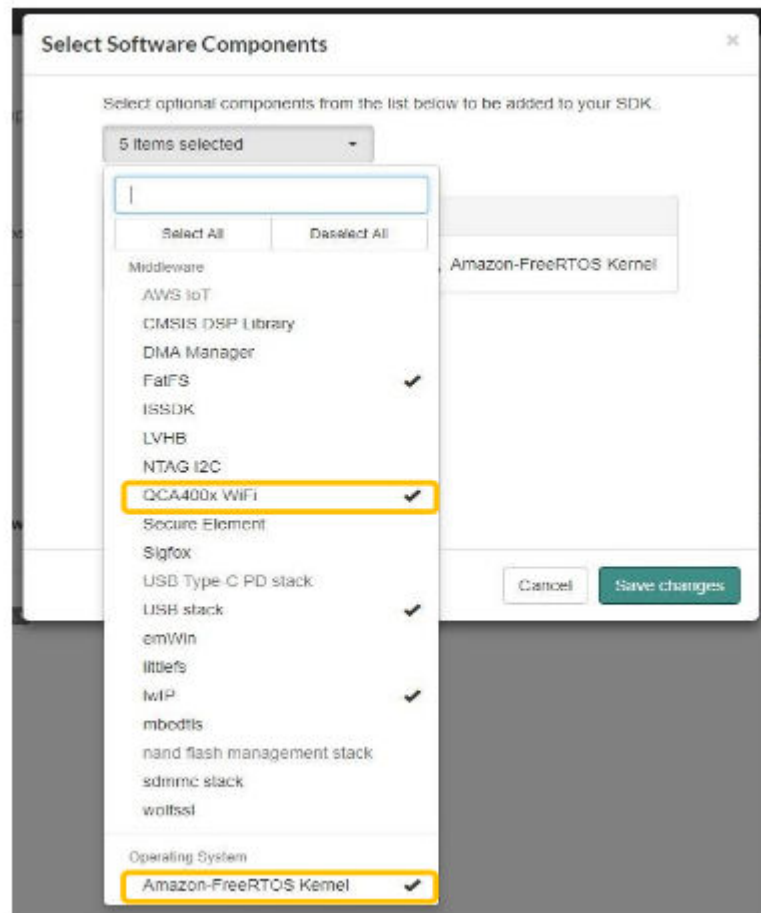

Figure 8. Additional components
- Select all necessary software components for your project. For QCA400x, it is mandatory to select **Amazon- FreeRTOS Kernel** and **QCA400x WiFi**, as shown in Figure 8.